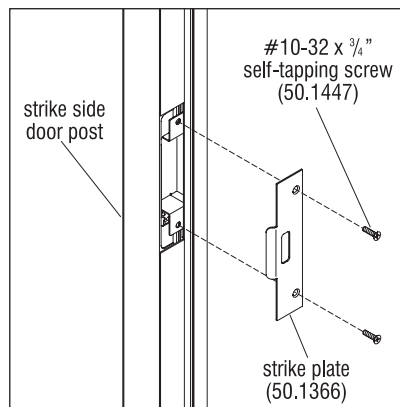

Figure 6 - Install Flipped Strike Plate
6. Re-install strike plate. Door frame is now ready to receive a reverse hand door leaf (Figure 6).